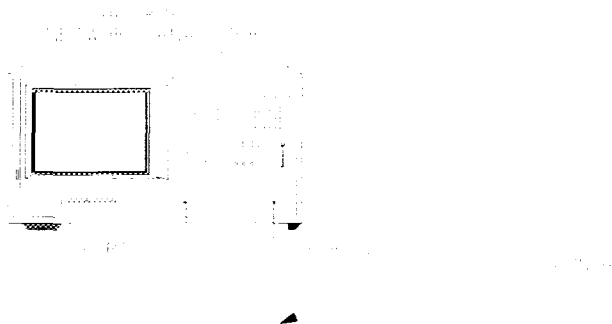

Figure 4-27. Test Port 2 Input Impedance Test Setup
- 14 Connect the equipment as shown in Figure 4-27.